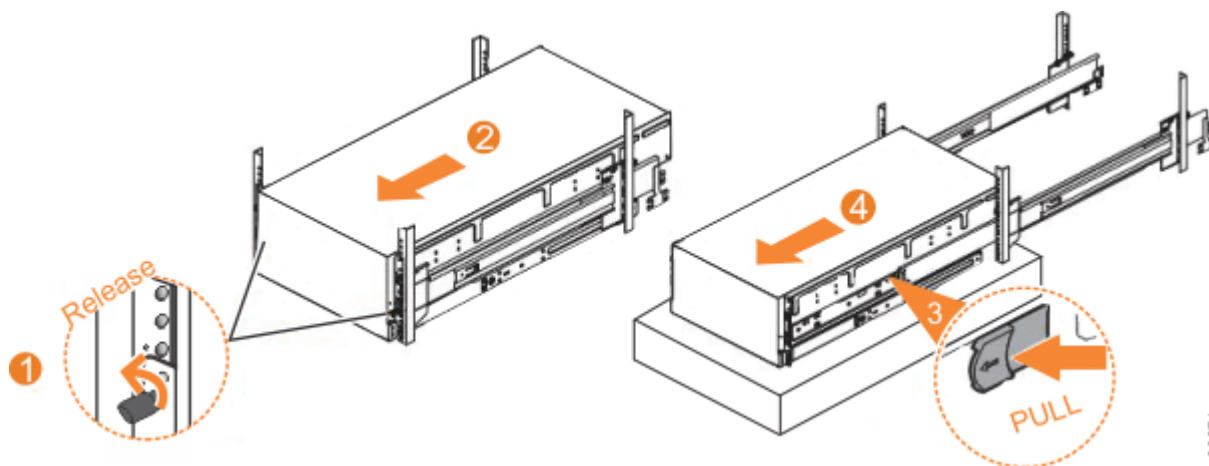

Figure 111. Removing the 5U expansion enclosure from the rack
1. Loosen the locking thumb screws (1) on the front of the enclosure, as shown in Figure 111 on page 172.
2. Carefully slide the enclosure forward out of the rack (2), as shown in Figure 111 on page 172.
3. Locate the left and right blue release tabs near the front of the enclosure. Pull both release tabs forward to unlock the drawer mechanism (3) in Figure 111 on page 172).
4. Slide the enclosure and inner rail member out of the rack (4) in Figure 111 on page 172).